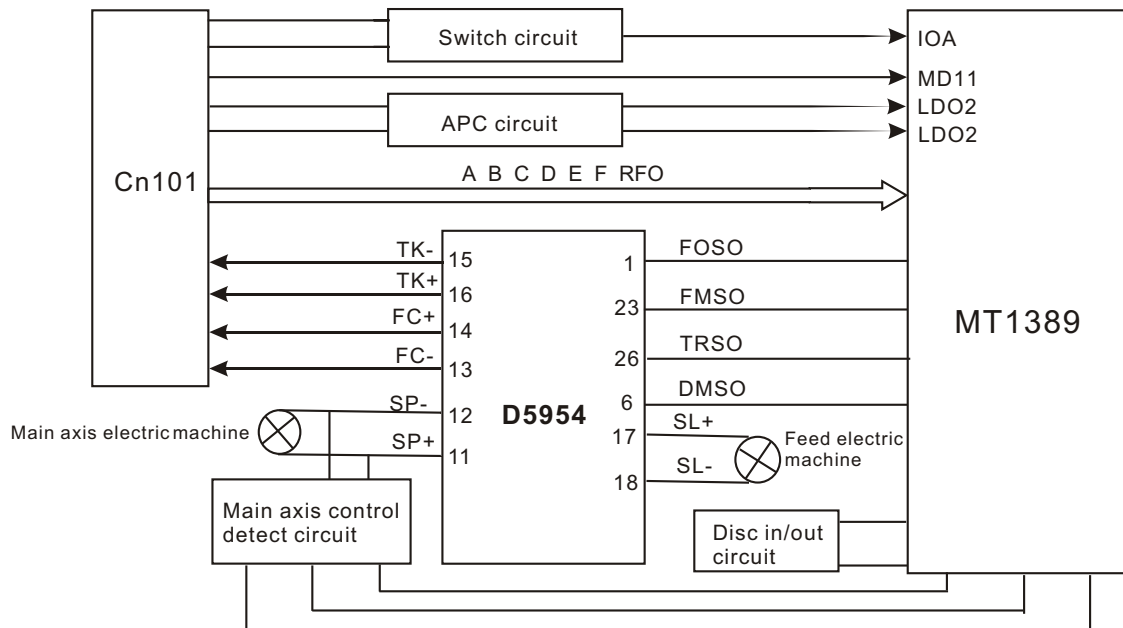

Figure 3.2.2.1 Servo circuit block diagram
1. Servo system of this player adopts SANYO loader + MTK decode solution (MT1389HD+FLASH(16M) + SDRAM (64M)), and its servo circuit is mainly composed of front end signal Processing, digital Servo processing, digital signal processing IC MT1389HD and drive circuit D5954, in which MT1389HD is also the main composed part of decode circuit. Servo circuit block diagram is shown as in the following figure 3.2.2.1: